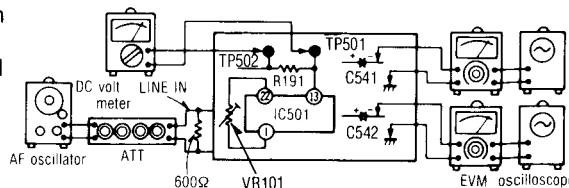

Fig. 20
1. Make the connections as shown in fig. 20 and apply 1kHz -27dB signal from LINE IN, and set the noise reduction selector to dbx position.